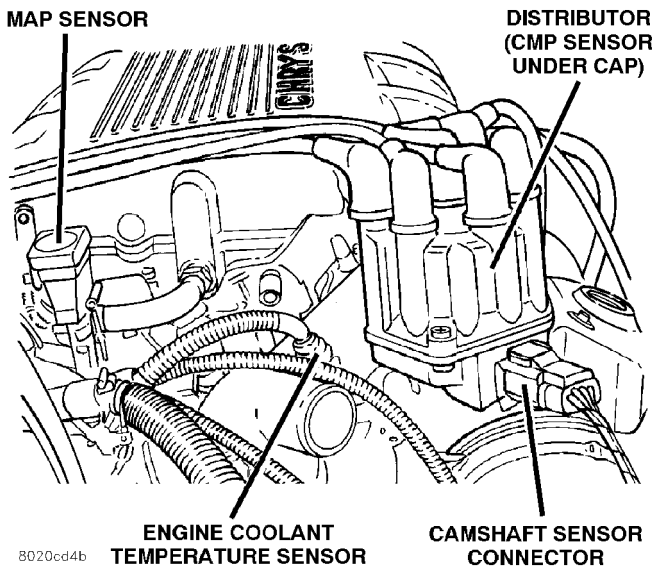

Fig. 6 Distributor Electrical Connector—3.0L Engine
(1) Disconnect distributor connector from distributor (Fig. 6).
- (5) Connect distributor electrical connector to distributor (Fig. 6).